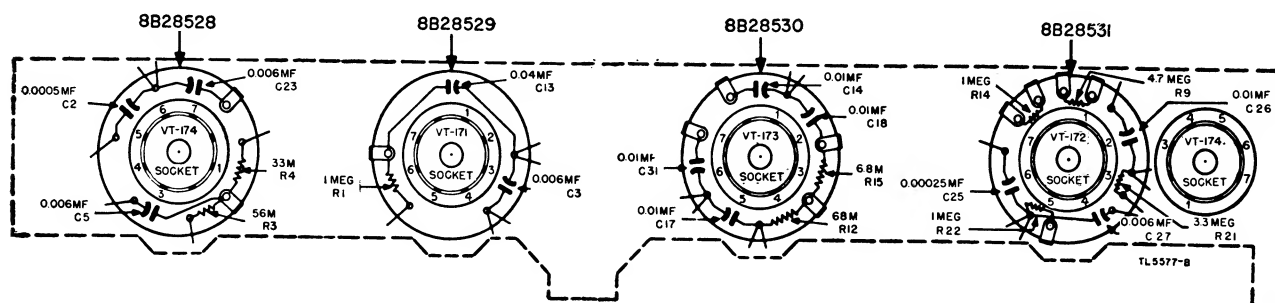

Figure 67. Resistor and capacitor cups, schematic diagram.
resistor connections. When replacing a cup, be sure that the new cup has the same part number as the old one. Because a great number of wires must be unsoldered, it will be found helpful to put on paper a simple description of each wire removed and the point to which it connects. Reference to the cup diagrams shown in figure 67 also will be found helpful. Scrape the old cement off the socket base before cementing the new cup in place. Place the new cup on the chassis so that the part number on the cup faces the back of the chassis (considering the press-to-talk switch side to be the front).
c. When necessary, conventional small resistors and mica capacitors may be used to replace the parts contained in the cups. Locate the parts carefully so that there is no interference when the antenna is raised and lowered and when the chassis is replaced. To prevent shorting, insulate the leads of the parts installed with spaghetti tubing. See figure 67 when replacing parts.